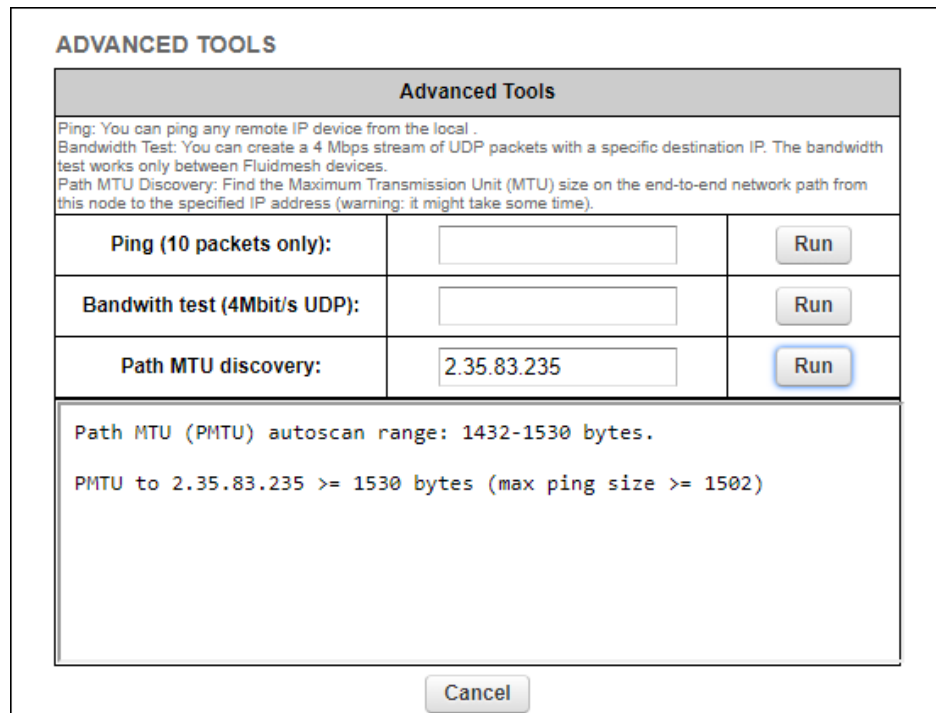

Figure 26. Advanced Tools window (Path MTU test tool)
2. Enter the IP address of the second unit in the **Path MTU discovery** field (Figure 26 (page 70)).